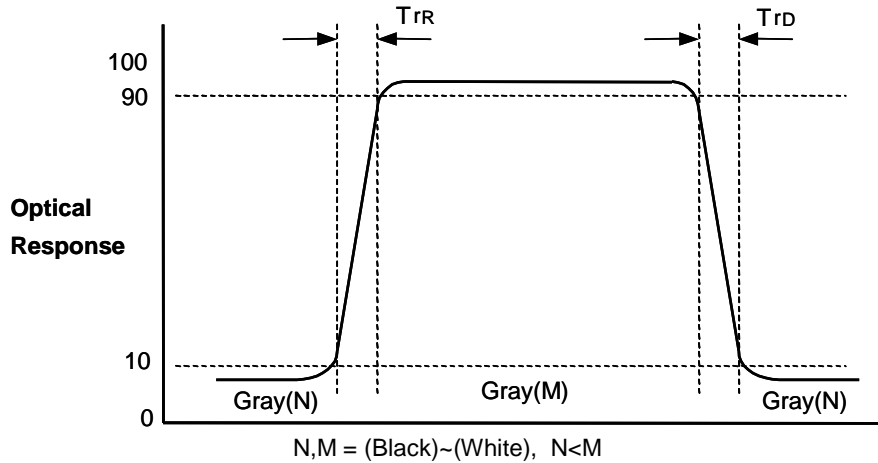

FIG.3 Response Time (G to G)
4. Response time is the time required for the display to transit from G(N) to G(M) (Rise Time, TrR) and from G(M) to G(N) (Decay Time, TrD). For additional information see the FIG. 3. (N<M)